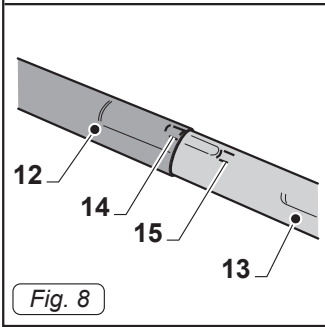

Fig. 8
- Join the two rigid extensions (12-13 Fig. 8) aligning the reference points (14-15 Fig. 8).